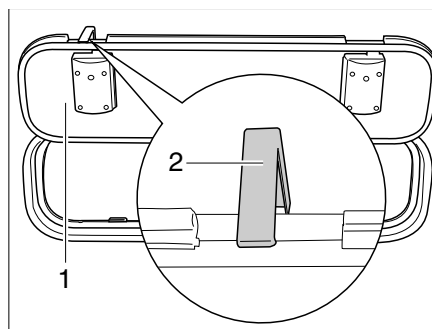

Fig. 59 Securing hook external flap
- Open the external flap (Fig. 59,1) and turn the securing hook (Fig. 59,2) upwards at the vehicle side.
- Press the securing hook (Fig. 59,2) upwards.